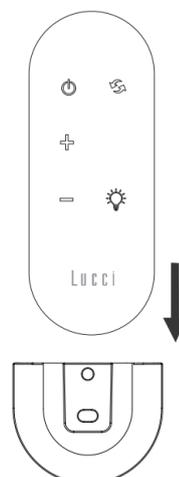

Fig. 15b
2. Slide the remote into the holder to rest the remote. (Fig. 15b)